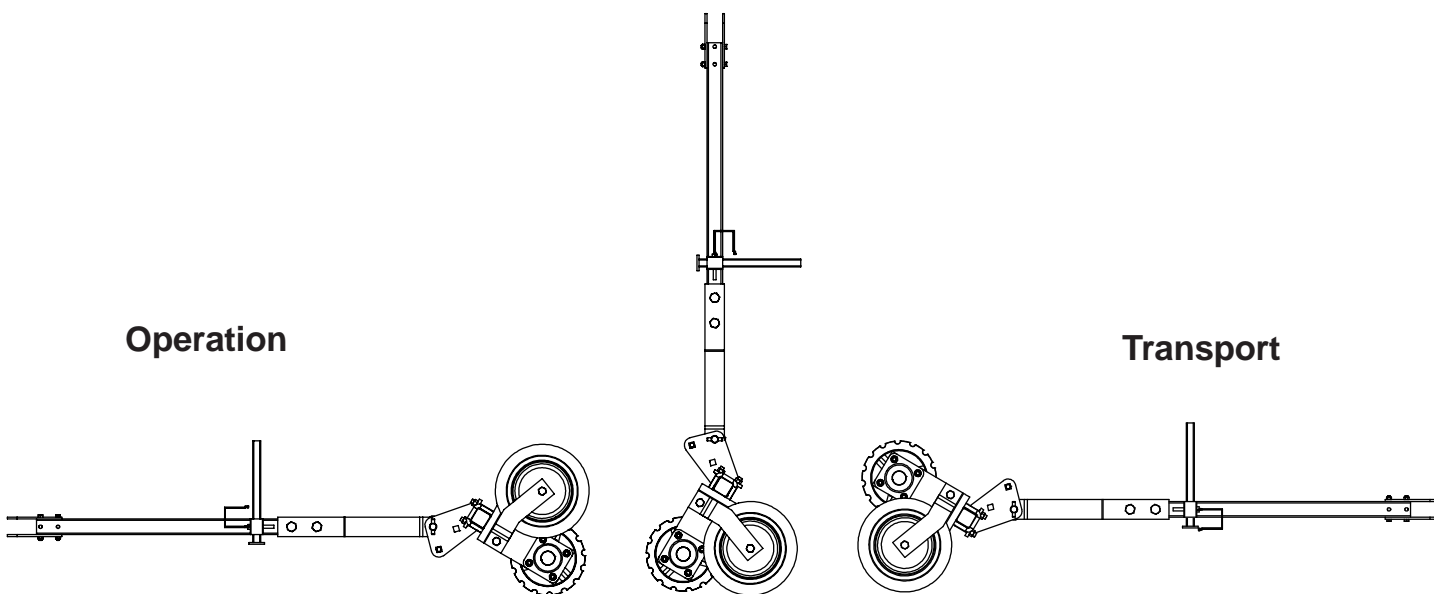

Figure 19.
4. Position yourself on the opposite side of the cultipacker and rotate the tongue into the operating or transport position as shown in Figure 19.